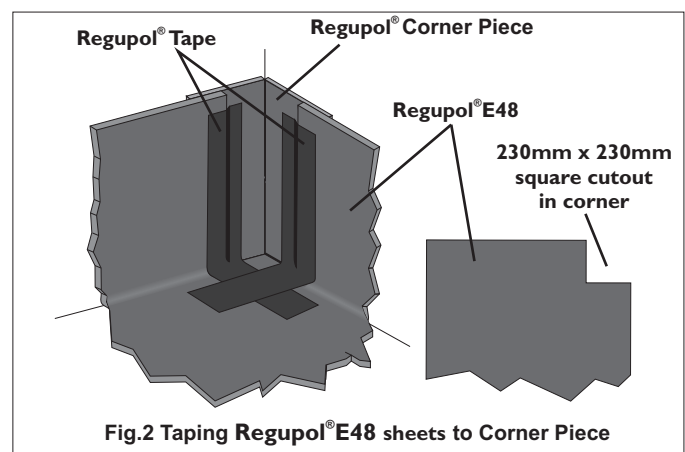

Fig.2 Taping Regupol® E48 sheets to Corner Piece
3. **Unroll a full width piece of Regupol® E48** making allowance for the 100mm upturn at each end. Cut a 230mm x 230mm square piece from the **Regupol® E48** in the corner that will overlap the corner piece. Move the **Regupol® E48** to overlap the **Regupol® Corner Piece** and turn it up each wall by 100mm. Ensure that all overlapping edges are taped with **Regupol® Tape** (see Fig. 2).